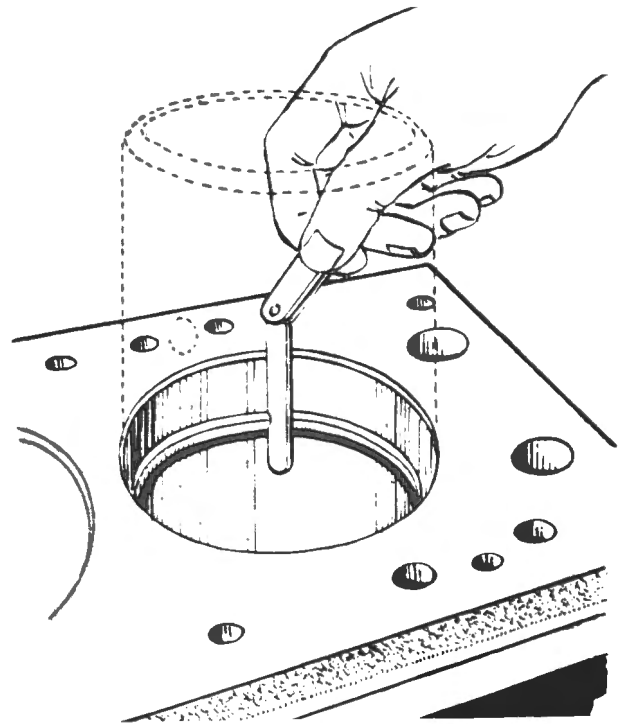

Fig. D-80
- (a) **Compression Ring Gap:** Deglaze the cylinder bore. Insert the ring in the bore approaching in its normal operating position. Insert appropriate piston head down in the bore and push the ring down below the normal ring travel. Measure the gap with feeler gauge as shown in Fig. D-80.